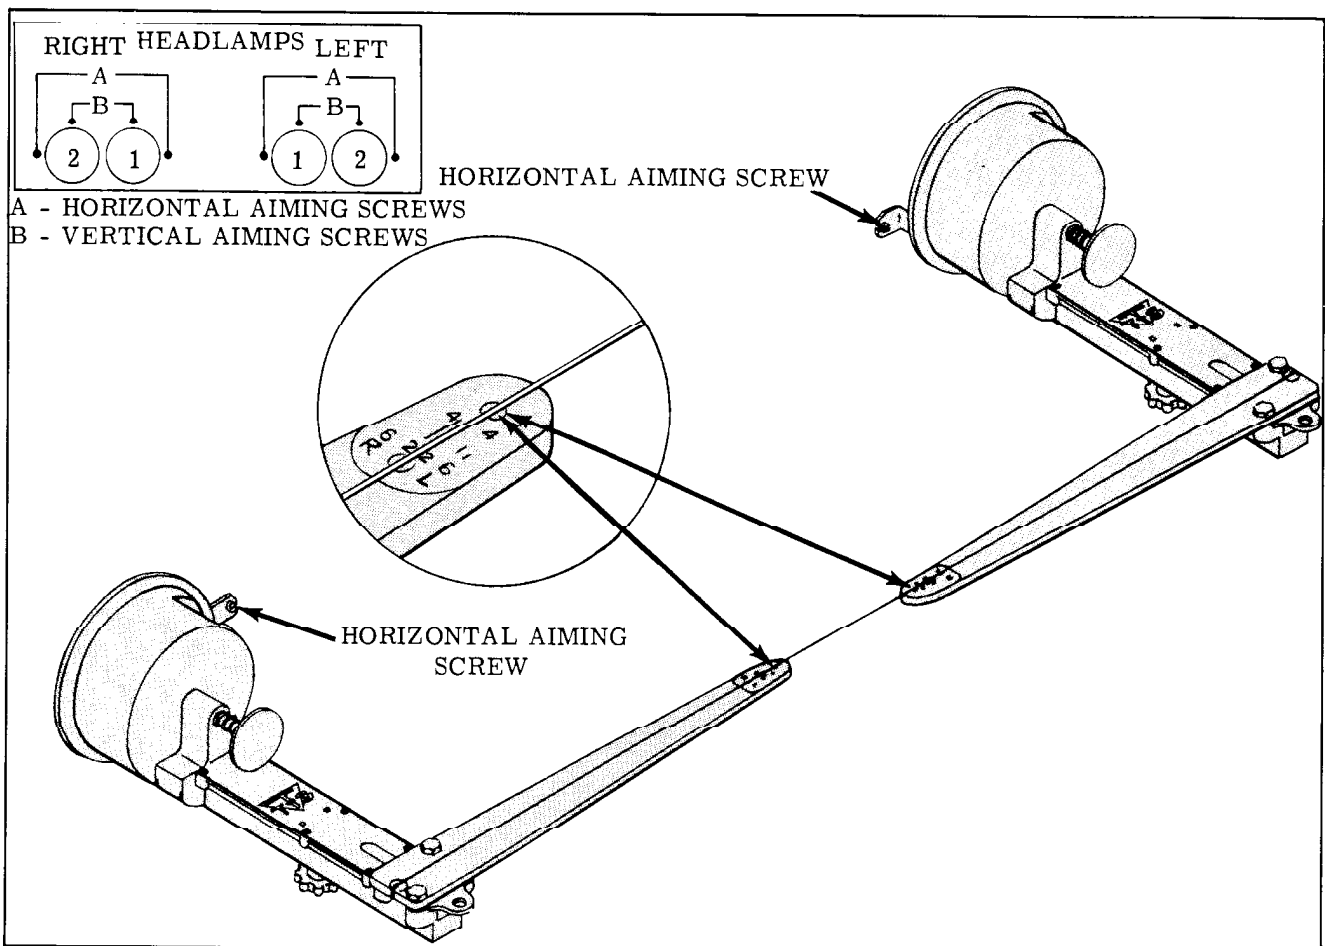

Fig. 13-90 Horizontal Headlamp Aiming
5. With both aimers in place on the same pair of headlamp units, knot both ends of the elastic string and fasten, using slots provided, from the left to the right aimer across the top of the horizontal crossarms. (Fig. 13-90)
- a. Turn horizontal aiming screw, Fig. 13-90, on left-hand lamp until the string is positioned over the crossarm center-line. Turn the screw clockwise in making the final adjustment to take up play in the headlamp mechanism.